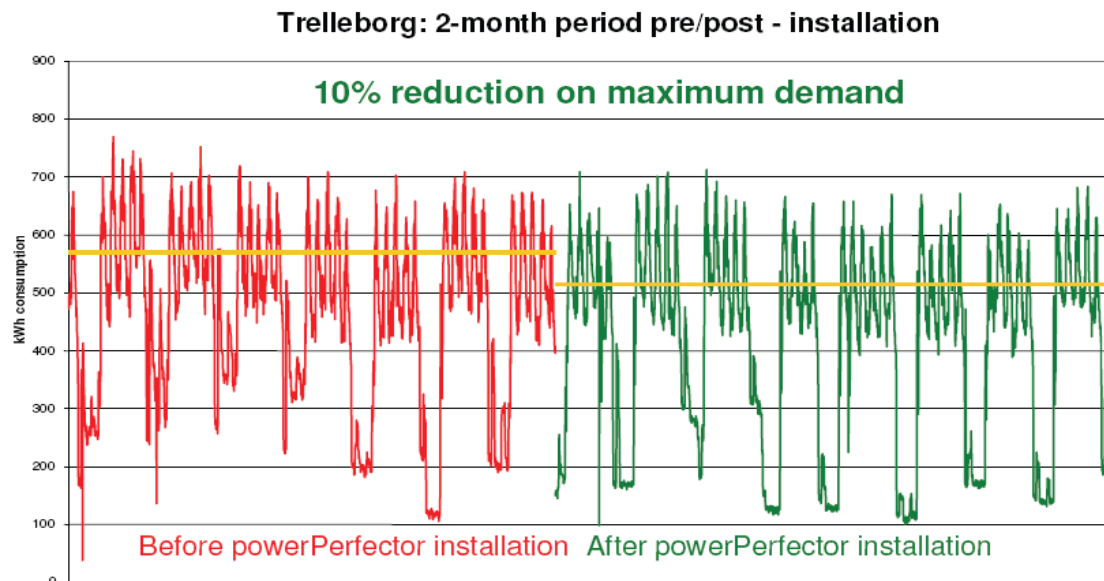

Figure 2
Savings will be made from a reduction in the capacity charges due to the fall in the maximum demand (MD) provided by the powerPerfector. This is shown for the same period 4-month period in **figure 2**, and is a reduction of **10%**.